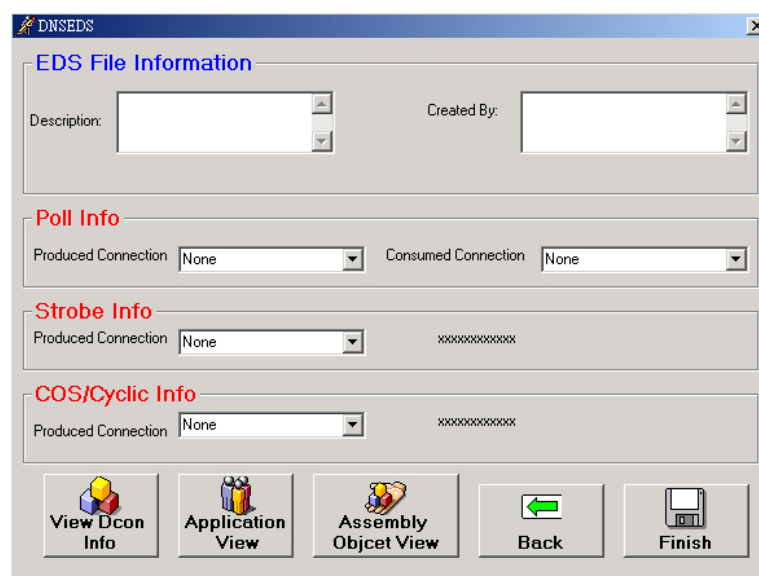

Fig 5-24
Step 9: Start to build the specific EDS file for your DeviceNet gateway. The DeviceNet EDS file information is set according to the following dialog box. Users can configure the relative information for their EDS file using a dialog box like Fig 5-24.